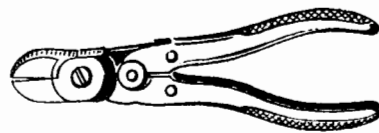

Fig. 218. Diagonal cutters.
**Diagonal Cutters.** Too many shops are without the diagonal cutter, which is an important tool (Fig. 218). Many times, when old soles are ripped from shoes, staples, or other metallic fasteners are found which should be clipped off. If they are pulled out, the inseam stitches may be torn, or the lip on the inner sole, to which the uppers and the welt are attached, may be damaged. The diagonal cutter also is very useful for removing tacks from places not easily reached.